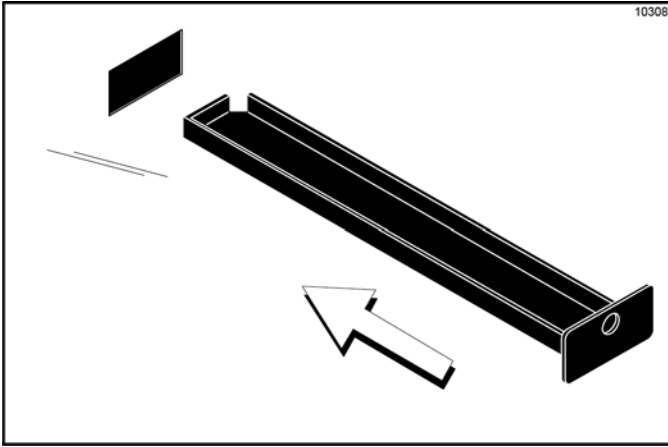

Figure 6-33
17. Slide the two shorter drip pans into the holes in the rear panel. Slide the two notched drip pans into the left and right side panels. (See Figure 6-33.)